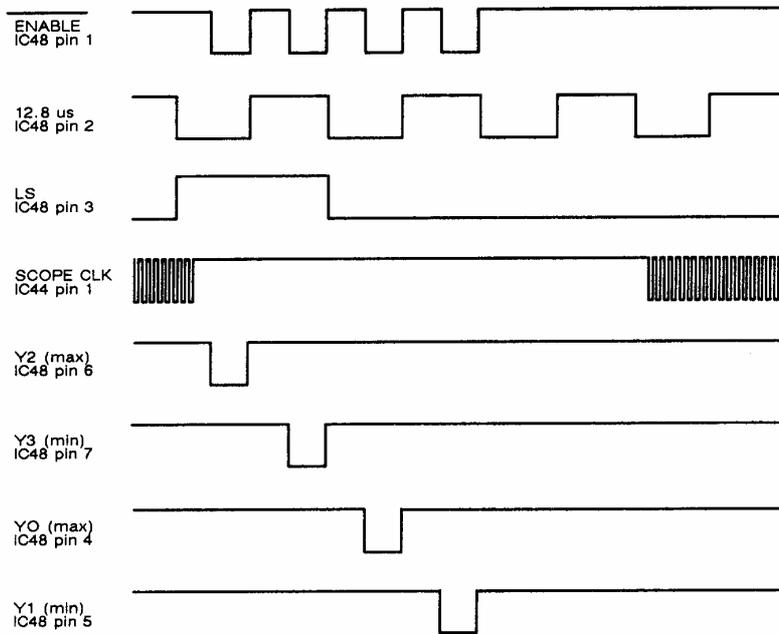

Fig. 5-3-2 Display counters timing waveform diagram for board AB2/2
- (15) With an input connected to the AF INPUT socket, check the operation of decoder IC48a by reference to the timing diagram shown in Fig. 5-3-2.
- (16) Set the input to 10 kHz and select a slow timebase. Trigger an oscilloscope from the falling edge of the Y1 pulse on IC48 pin 5 and display the SCOPE VIDEO signal on TP6. Check that the signal starts high, goes low and then returns high, all within the line scan period of 64 μ s.
- (17) Vary the amplitude of the input and check that the duration of the low period increases and decreases with amplitude.